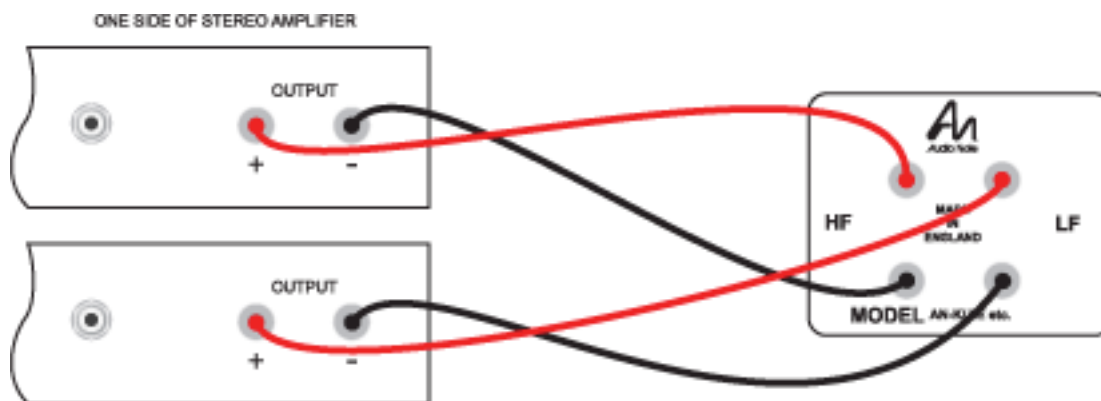

Figure 4. Bi-amping with one stereo amplifier high frequency and one for low frequency drivers.
**Figure 4** shows an alternative method for using two stereo amplifiers to bi-amp your Audio Note™ speakers. both channels of a stereo amplifier driving one loudspeaker system. Using this method,, both channels of one stereo amplifier are used to drive the HF units in the two loudspeakers while both channels of the second stereo amplifier are used to drive the LF units in the two loudspeakers.